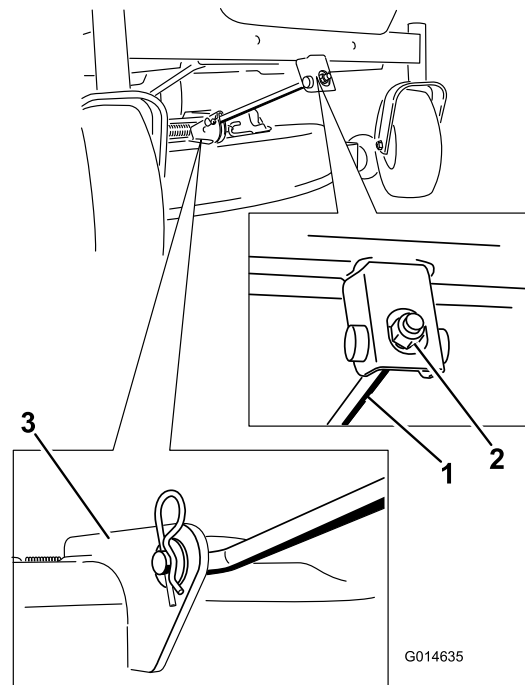

Figure 63
4. Remove the hairpin cotter from the front support rod, and remove the rod from the deck bracket (Figure 63).
8. Attach the front support rod to the mower deck with the clevis pin and hairpin cotter (Figure 63).